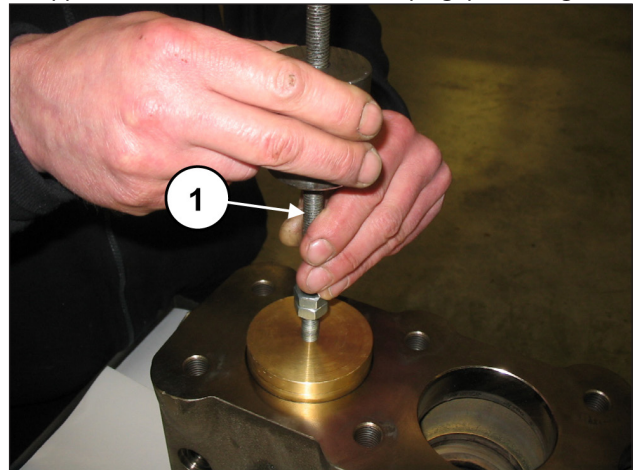

Fig. 108
Extract the valve plug with the use of an extractor hammer to be applied on the M10 hole of the valve plug (pos. ①, Fig. 108).